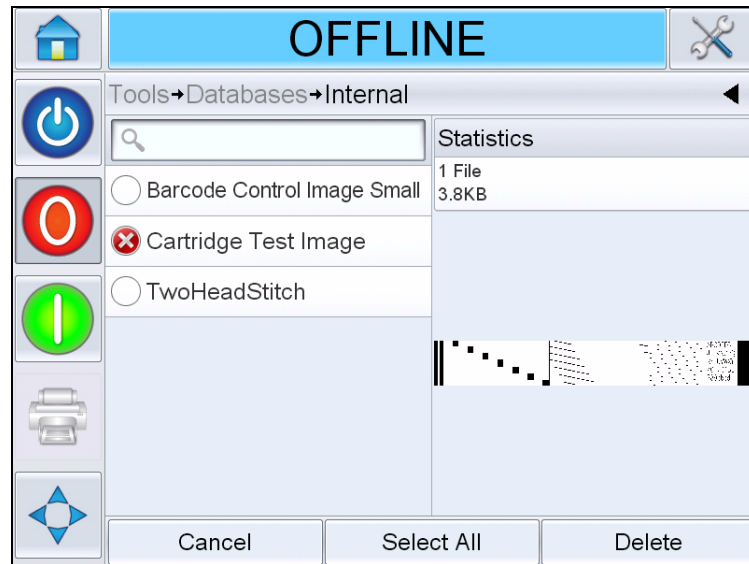

Figure 6-26: Database Delete Window
- 3 Select the required database (internal or external) and touch *Edit* to go to the deletion screen (see Figure 6-26). This page contains a list of all the available print jobs along with details of the space available for the storage of new jobs.